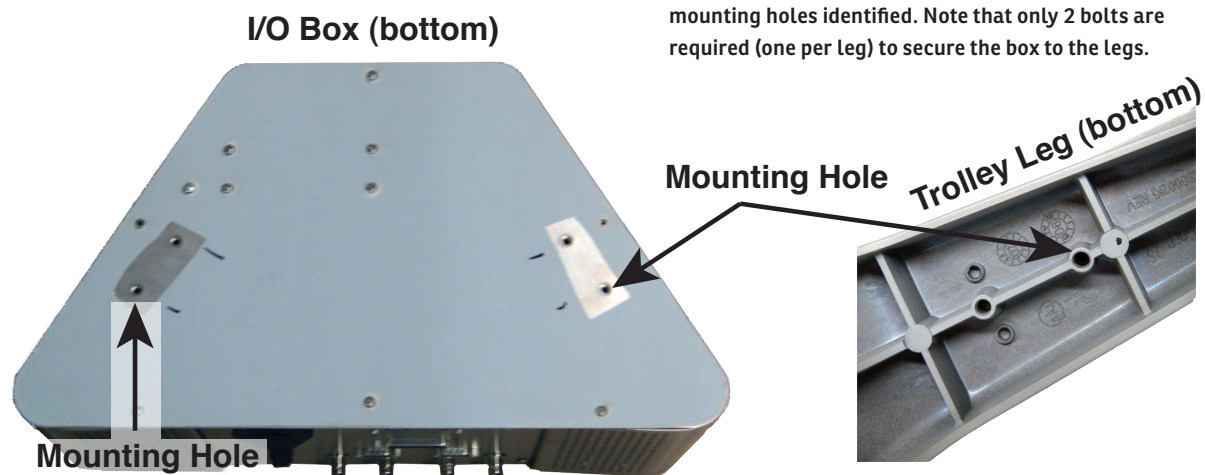

Fig. 20-3
3. Place the trolley wheel base upside down on the I/O box, and carefully align the holes in the wheel base to the holes in the I/O box as illustrated in Fig. 20-3.